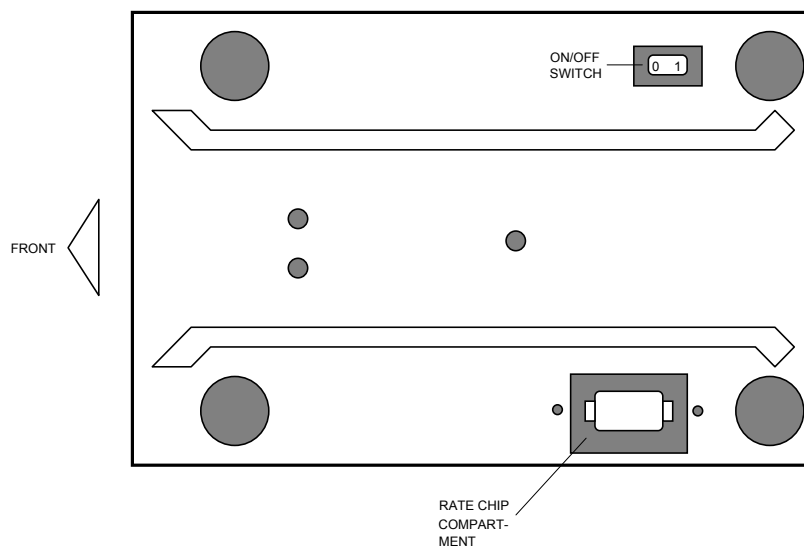

FIGURE D-1: SPS-30 Bottom View
3. Turn the scale over on its left side as shown in the Figure D-1.